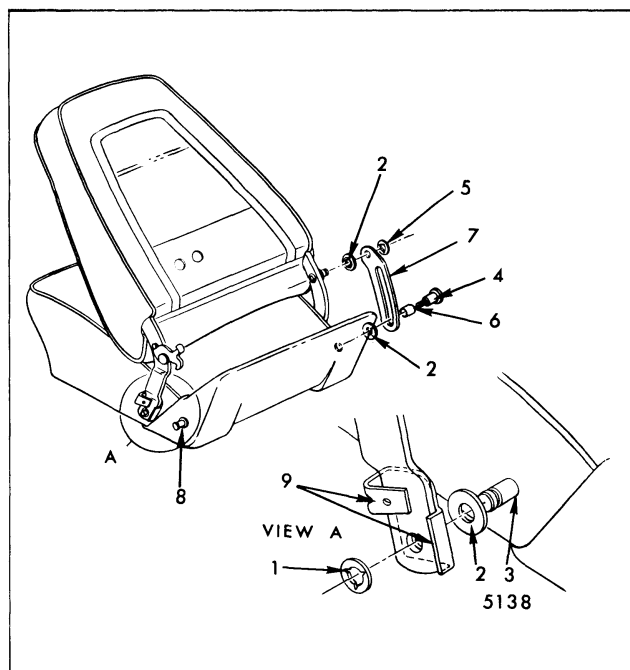

Fig. 9-36-Seat Back Assembly - Standard Bucket Seats
2. On seats equipped with inner hinge arm link, remove link upper retainer (Fig. 9-36) and disengage link from hinge arm.
3. At both sides of seat back remove retainer securing hinge arm to hinge arm pin on seat cushion (Fig. 9-36); then, disengage hinge arms from pins and remove seat back.